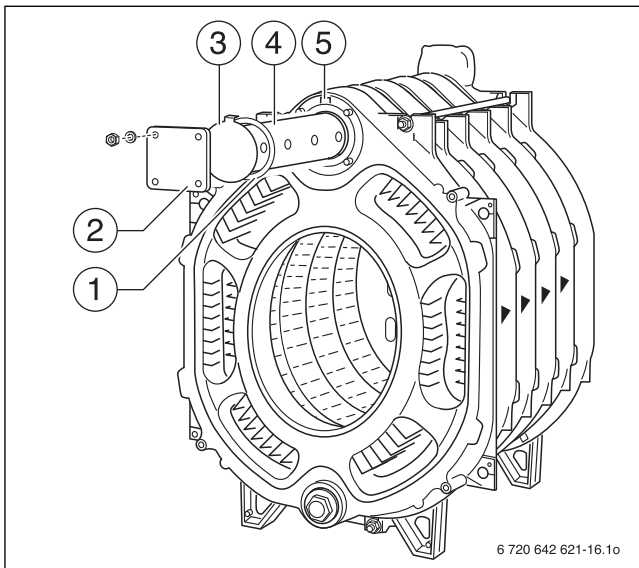

Fig. 21 Installing the supply pipe
- ▶ Push the flat gasket (Fig. 21, [1]) over the supply pipe (Fig. 21, [4]).
- ▶ Close off with flange cover (Fig. 21, [2]).
- ▶ Make sure that the cam [3] on the end plate of the supply pipe (→ Fig. 21, [3]) fits in the notch in the top boiler hub (→ Fig. 21, [5]) (Thermostream principle).